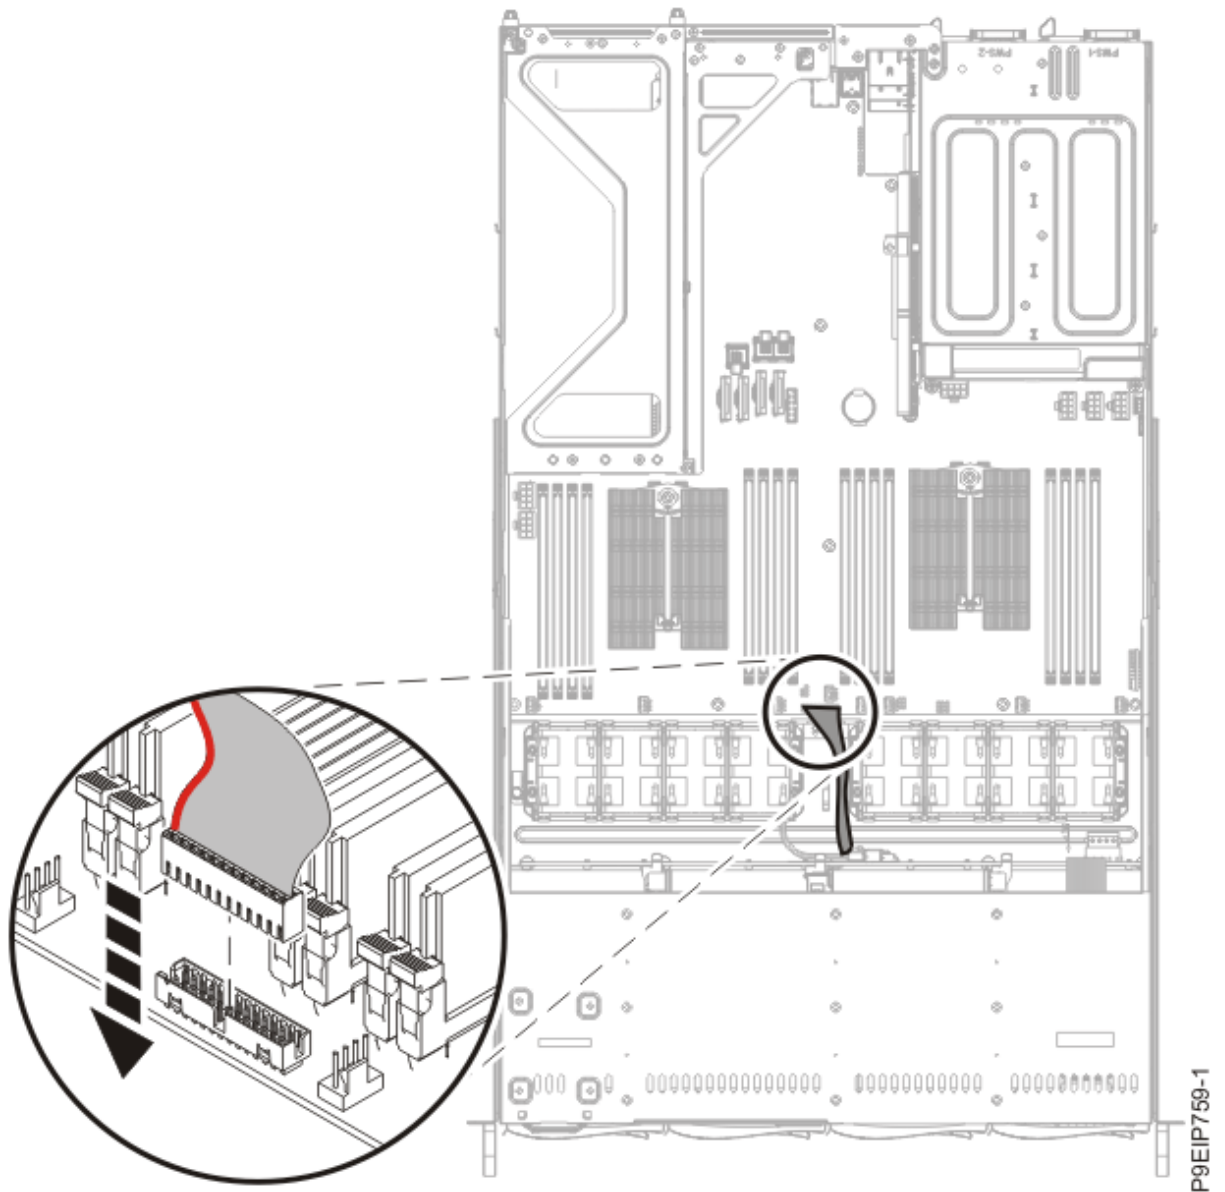

Figure 50. Replacing the operator panel cable
19. Replace the operator panel cable into the system backplane as shown in Figure 50 on page 56.